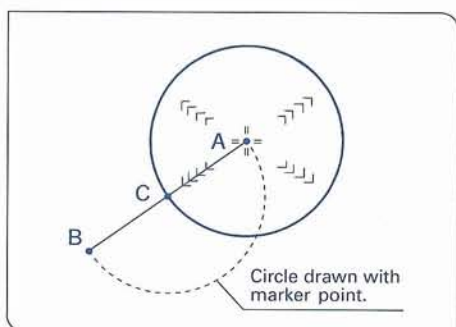
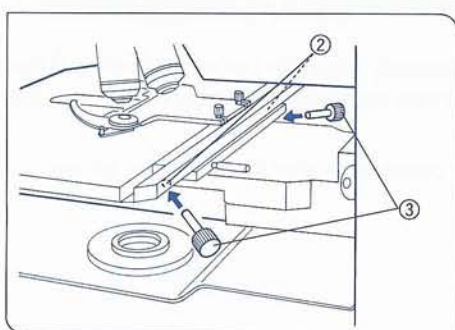

Fig. 33
Fig. 34
3. When the stage is rotated, the detail moves in a circle from A to B. Insert the provided centering knobs ③ into the stage centering knobs ② and coincide the detail with the imaginary center C of the A-B circle. (Fig. 33, 34)
- ★ When it cannot move centering around the marker point, loosen the locking screw ④.
4. Turn the coaxial movement knobs to move the specimen so that the detail coincide with the cross line center again C → A. (Fig. 34)